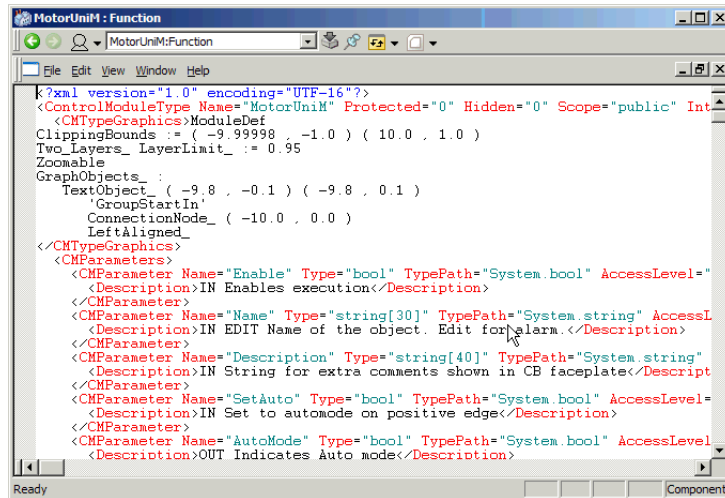

Figure 18. XML Type Description of a MotorUniM Control Module
- CB control modules, refer to Figure 18